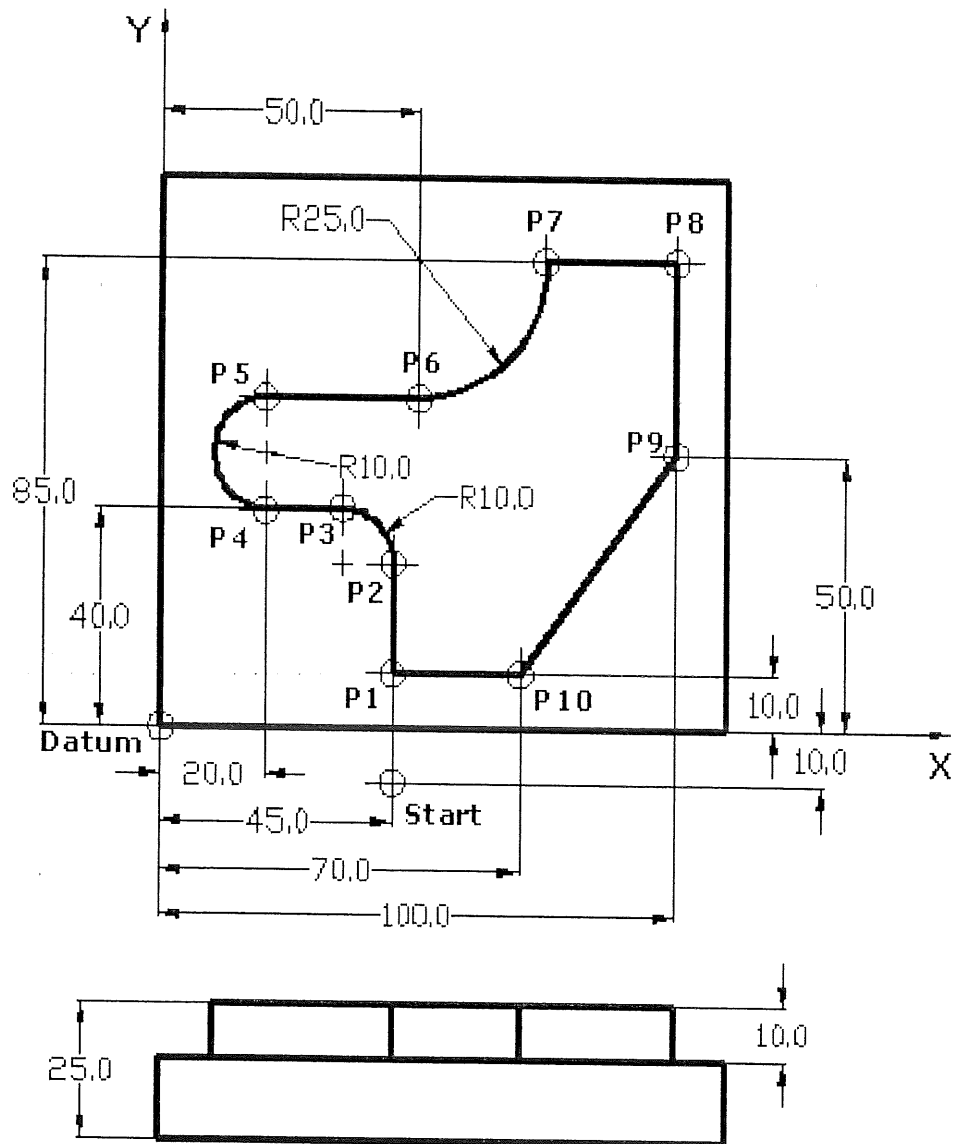

Figure 2
- a) With the given drawing (Figure 2) and using **absolute mode**, write complete CNC programming for milling process. Please include spindle speed, feed rate, tool number and depth **-3.00 mm** in Z axis from the surface. (20 marks)